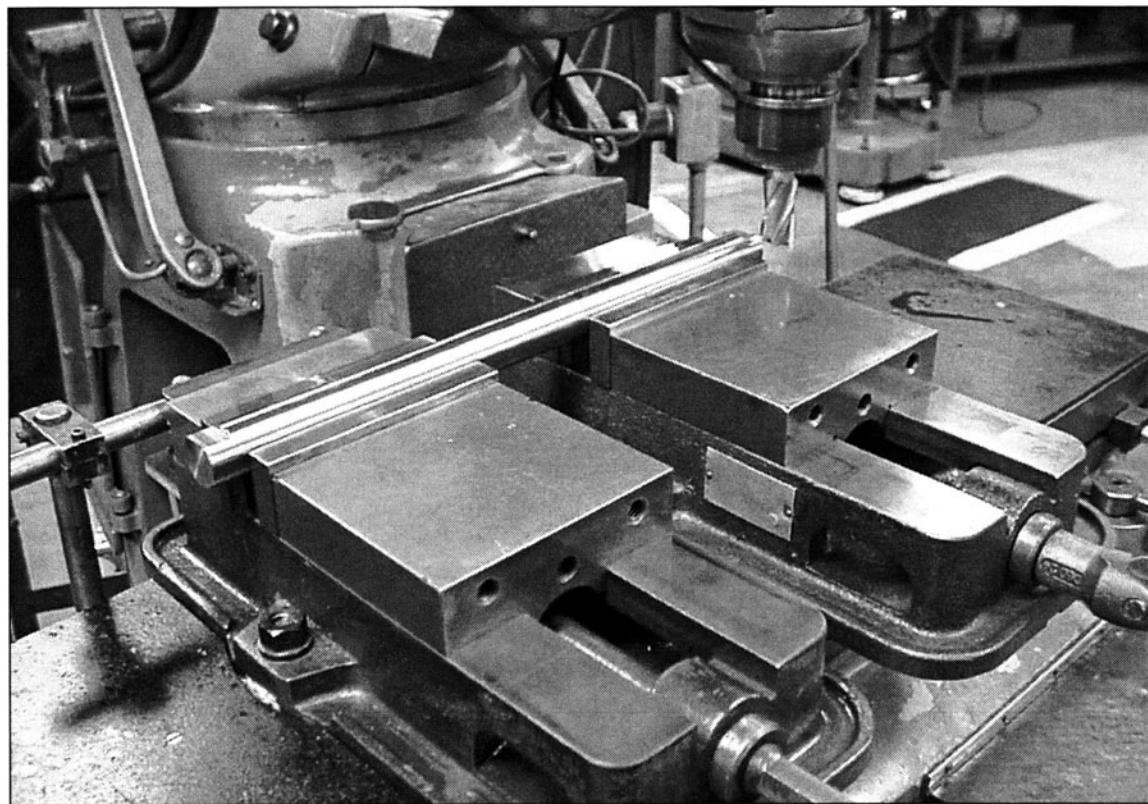

FIGURE 3-16 Two vises mounted on a machine table are handy for machining long parts.
21. Mount two vises on a milling machine table. (See Fig. 3-16)